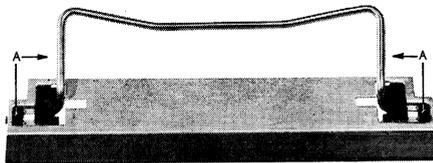

Fig. 20 Tilting assembly
5. Remove the tilting assembly at the bottom of each unit by pushing the two nylon slides "A" in the direction indicated in Fig. 20.